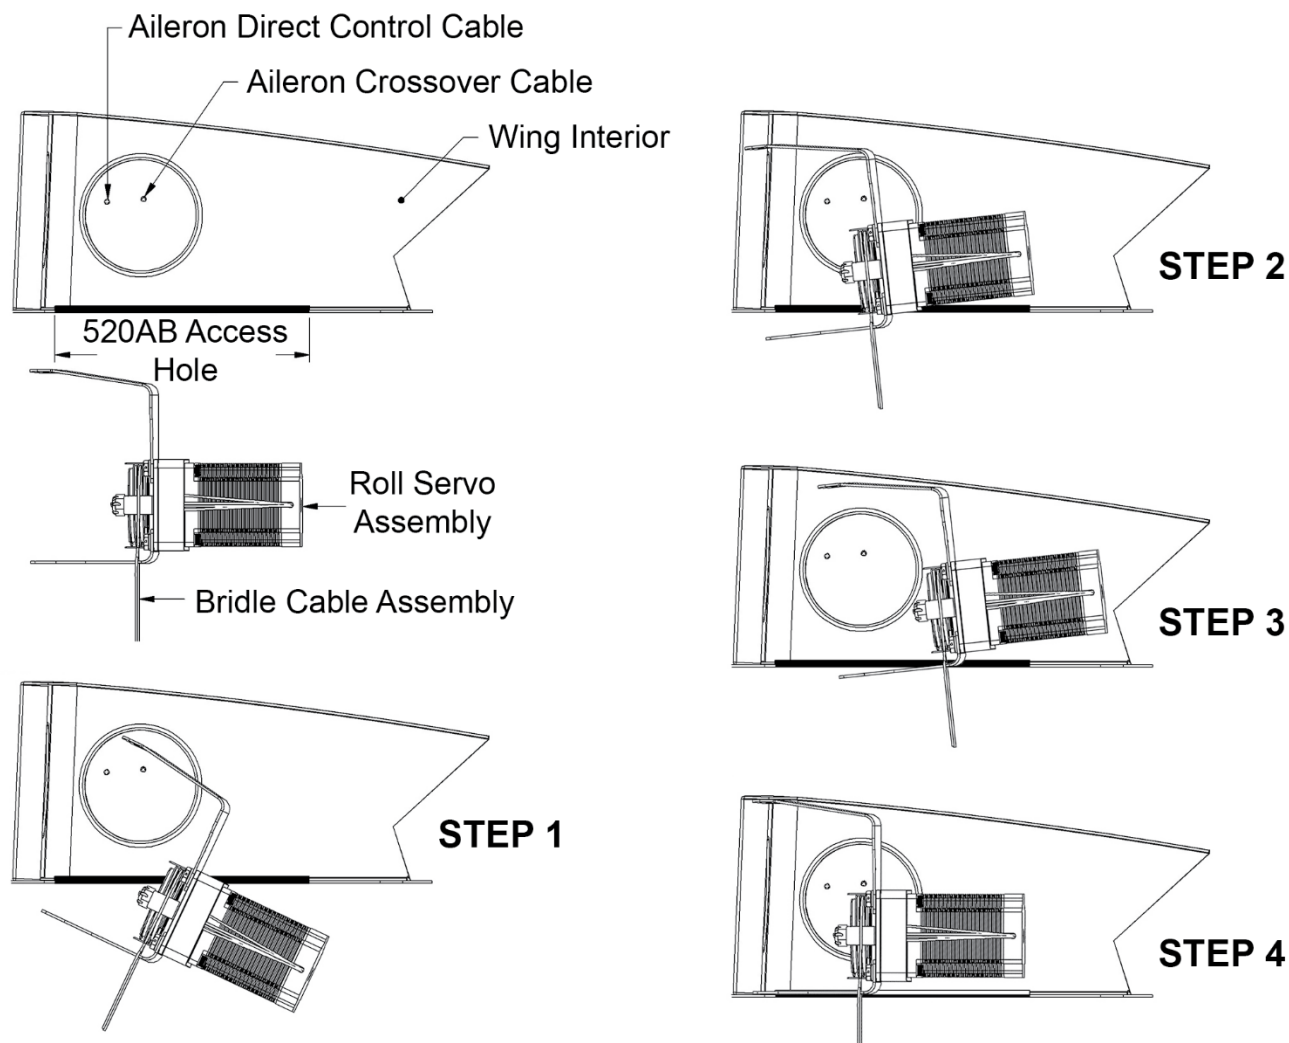

Figure 9: Inserting Roll Servo Assembly into Wing
9. Insert roll servo assembly into wing, as shown in Figure 9.